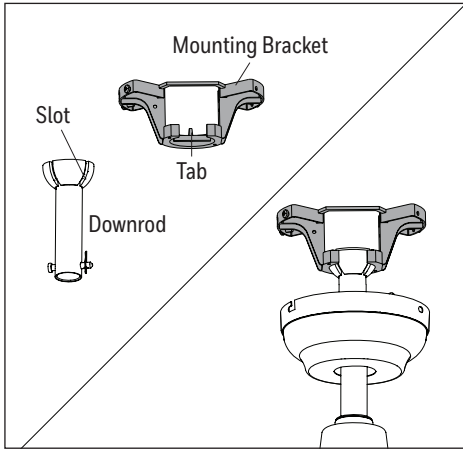

Figure 3.1
1. Install the ball end of the downrod into the opening of the mounting bracket (Figure 3.1). **WARNING:** Failure to align the slot in the ball with the tab on the mounting bracket may cause the fan to fall, which could result in injury or death.